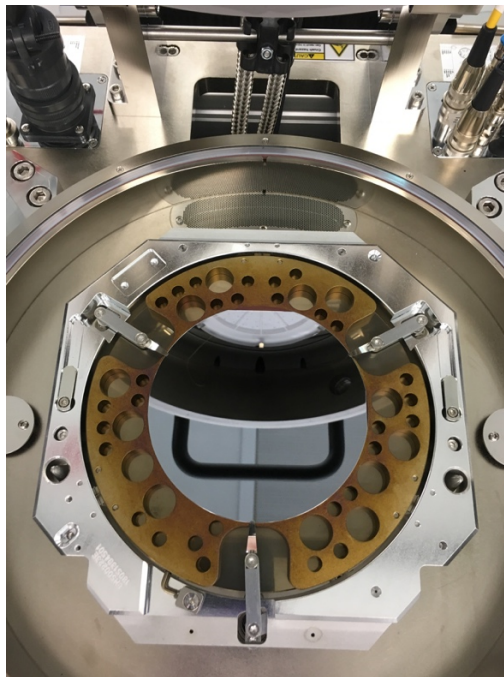

Figure 2: Correct alignment of a Si wafer on the heating chuck with spacers on top
- iv. Place and align Si wafer on the heating chuck, with the wafer flat on the top side. Check one more time for any particles on the surface using the green flashlight available. See Figure 2 for correct alignment example.
- v. Place all three spacers on the Si wafer, so they point towards the center of the wafer, with as minimal contact as possible. See Figure 2 for correct spacer positioning.